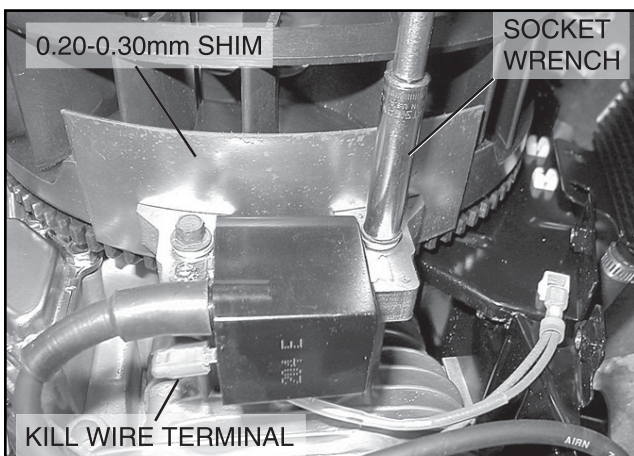

Figure 13-12. Adjust Air Gap
2. Place 0.20-.30mm (.008"-.012") thickness gauge between magnet and coil laminations, Figure 13-12.